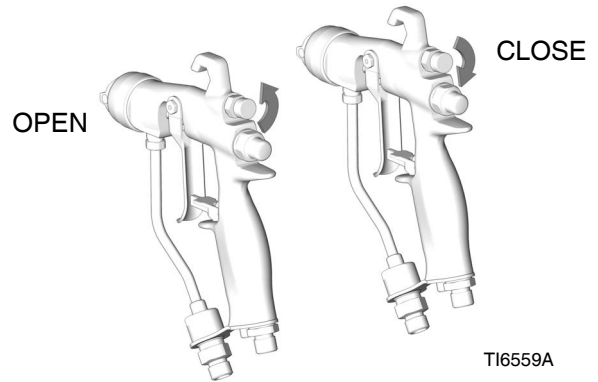

FIG. 13
4. Close off the pattern adjustment air by turning the knob clockwise (in) all the way. See FIG. 13. This sets the gun for its widest pattern.
*For a narrower pattern,* turn the pattern adjustment valve knob counterclockwise (out). See FIG. 13. If the pattern is still not narrow enough, increase the air pressure to the gun slightly or use a different size tip. (Not available for RAC tip guns.)